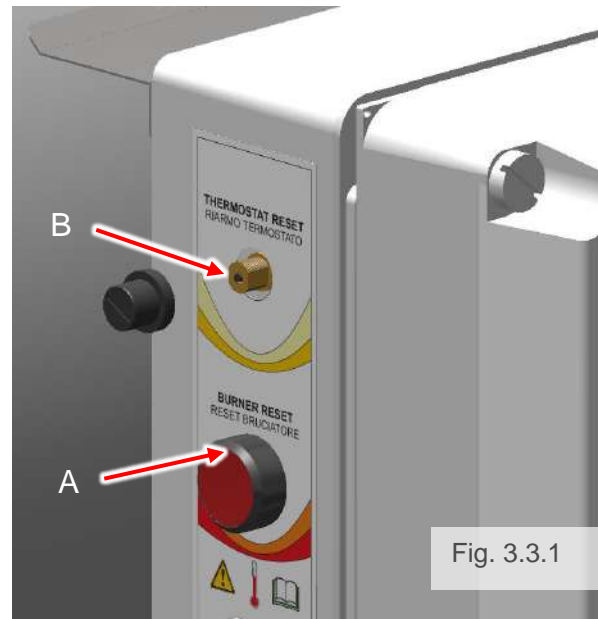

Fig. 3.3.1
- Press and hold the Reset button for at least 3 seconds. The signal lamp goes off and the start-up sequence is repeated. If the appliance still freezes, switch it off and contact the service department (Fig. 3.3.1, A).
- Unscrew the protective cap of the thermostat reset button on the side of the electrical box, press the thermostat reset button and then the luminous Reset button to restart. If the appliance does not restart, or if the safety thermostat continues to trip, contact the service department (Fig. 3.3.1, B).